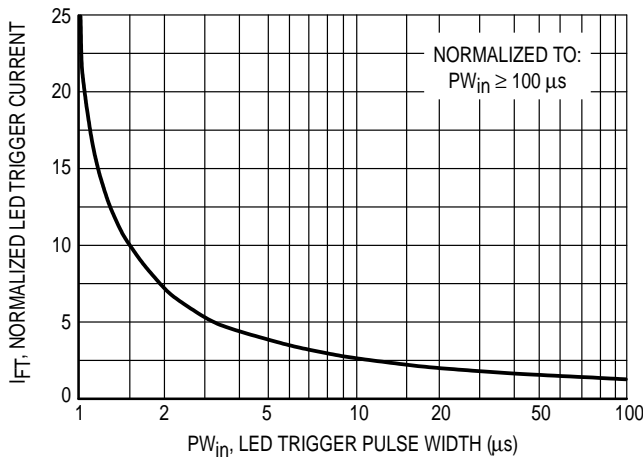

Figure 4. LED Current Required to Trigger versus LED Pulse Width
Random Phase Triac drivers are designed to be phase controllable. They may be triggered at any phase angle within the AC sine wave. Phase control may be accomplished by an AC line zero cross detector and a variable pulse delay generator which is synchronized to the zero cross detector. The same task can be accomplished by a microprocessor which is synchronized to the AC zero crossing. The phase controlled trigger current may be a very short pulse which saves energy delivered to the input LED. LED trigger pulse currents shorter than 100 µs must have an increased amplitude as shown on Figure 4. This graph shows the dependency of the trigger current I_{FT} versus the pulse width t (PW). The reason for the I_{FT} dependency on the pulse width can be seen on the chart delay t(d) versus the LED trigger current.